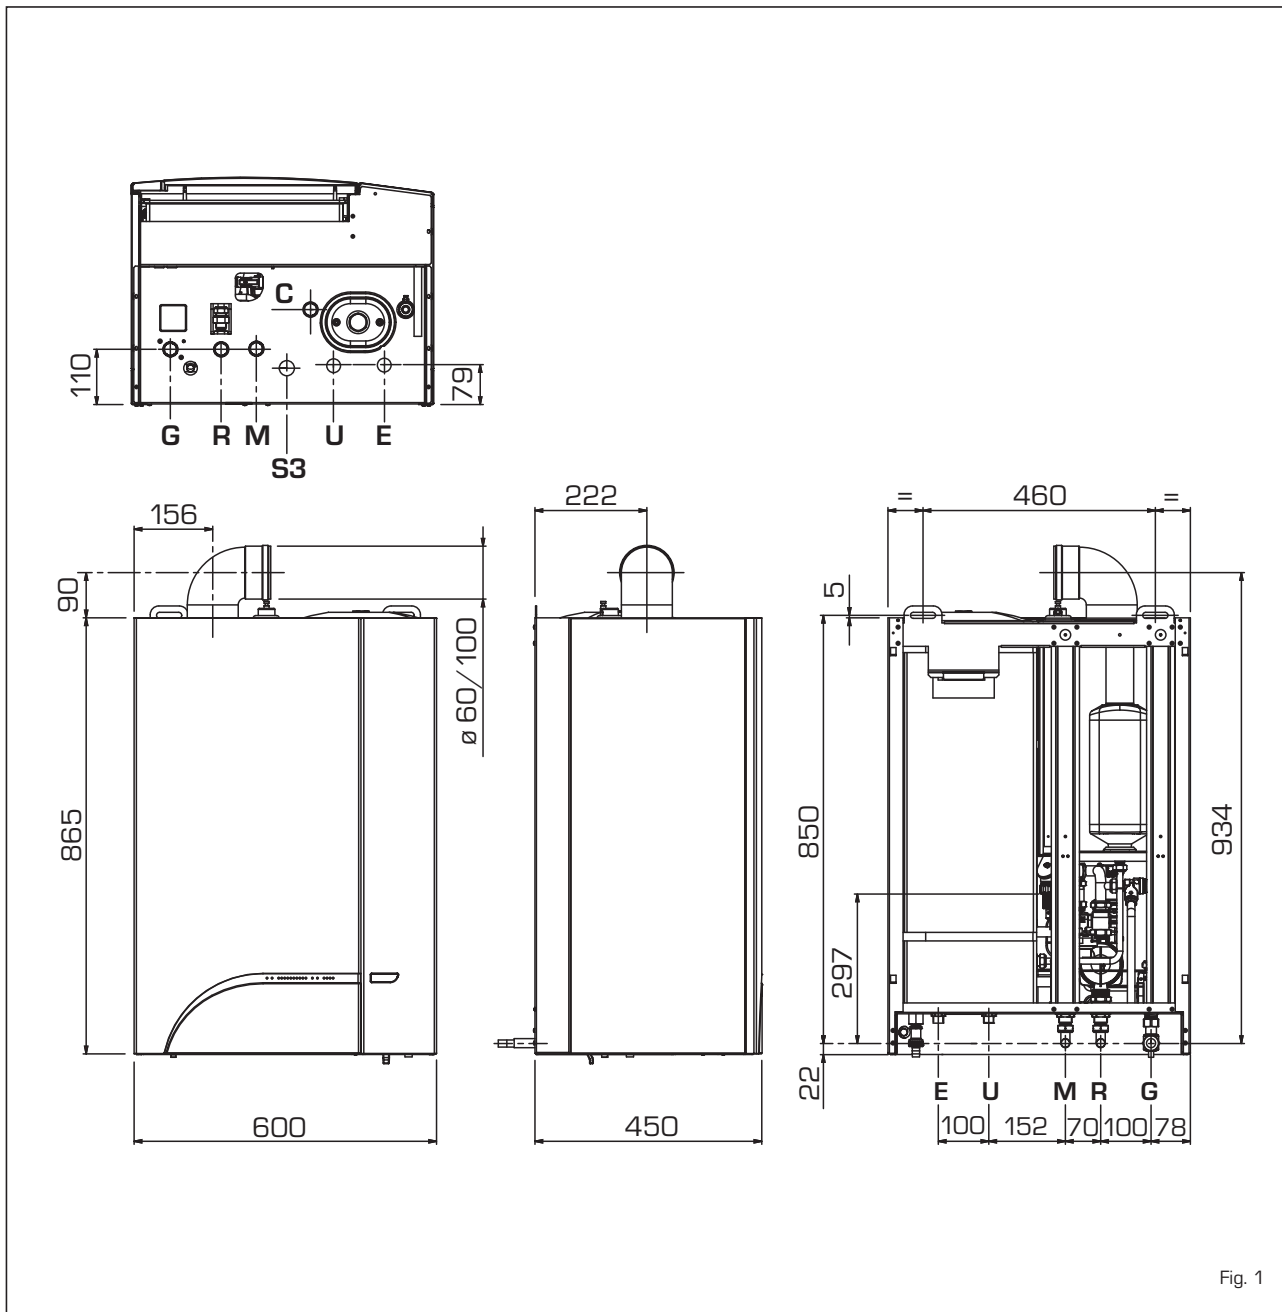

Fig. 1
- It is not necessary to have a purpose provided air vent in the room or compartment in which the appliance is installed *without any location restrictions*, other than the load bearing capacity of the wall where the appliance is to be sited, (consult section 1.3 for weight), or "Combustion" air requirements. However, suitable clearances for maintenance and servicing should be provided, see fig. 1.